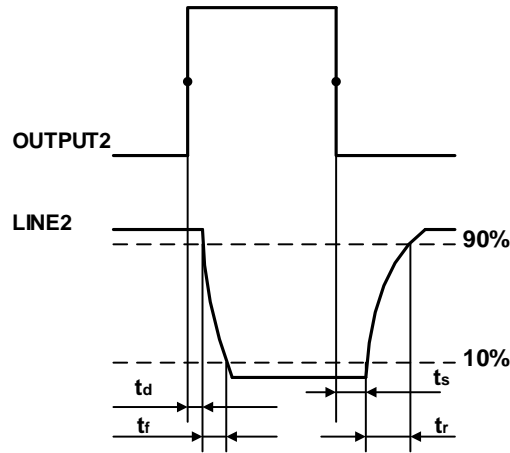

Figure 7-9 Parameter of opto-isolated output circuit
- Rising time delay = t_r+t_d : $<20\mu\text{s}$ ($0^{\circ}\text{C}\sim 45^{\circ}\text{C}$) (parameter description as shown in Figure 7-9)
- Falling time delay = t_s+t_f : $<20\mu\text{s}$ ($0^{\circ}\text{C}\sim 45^{\circ}\text{C}$) (parameter description as shown in Figure 7-9)